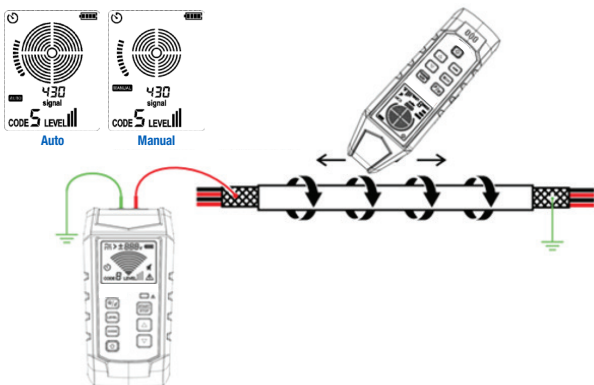

Figure 8.5.1a – Track Shielded Cable (with its far end grounded)
5. See **Figure 8.5.1a** on next page for reference.